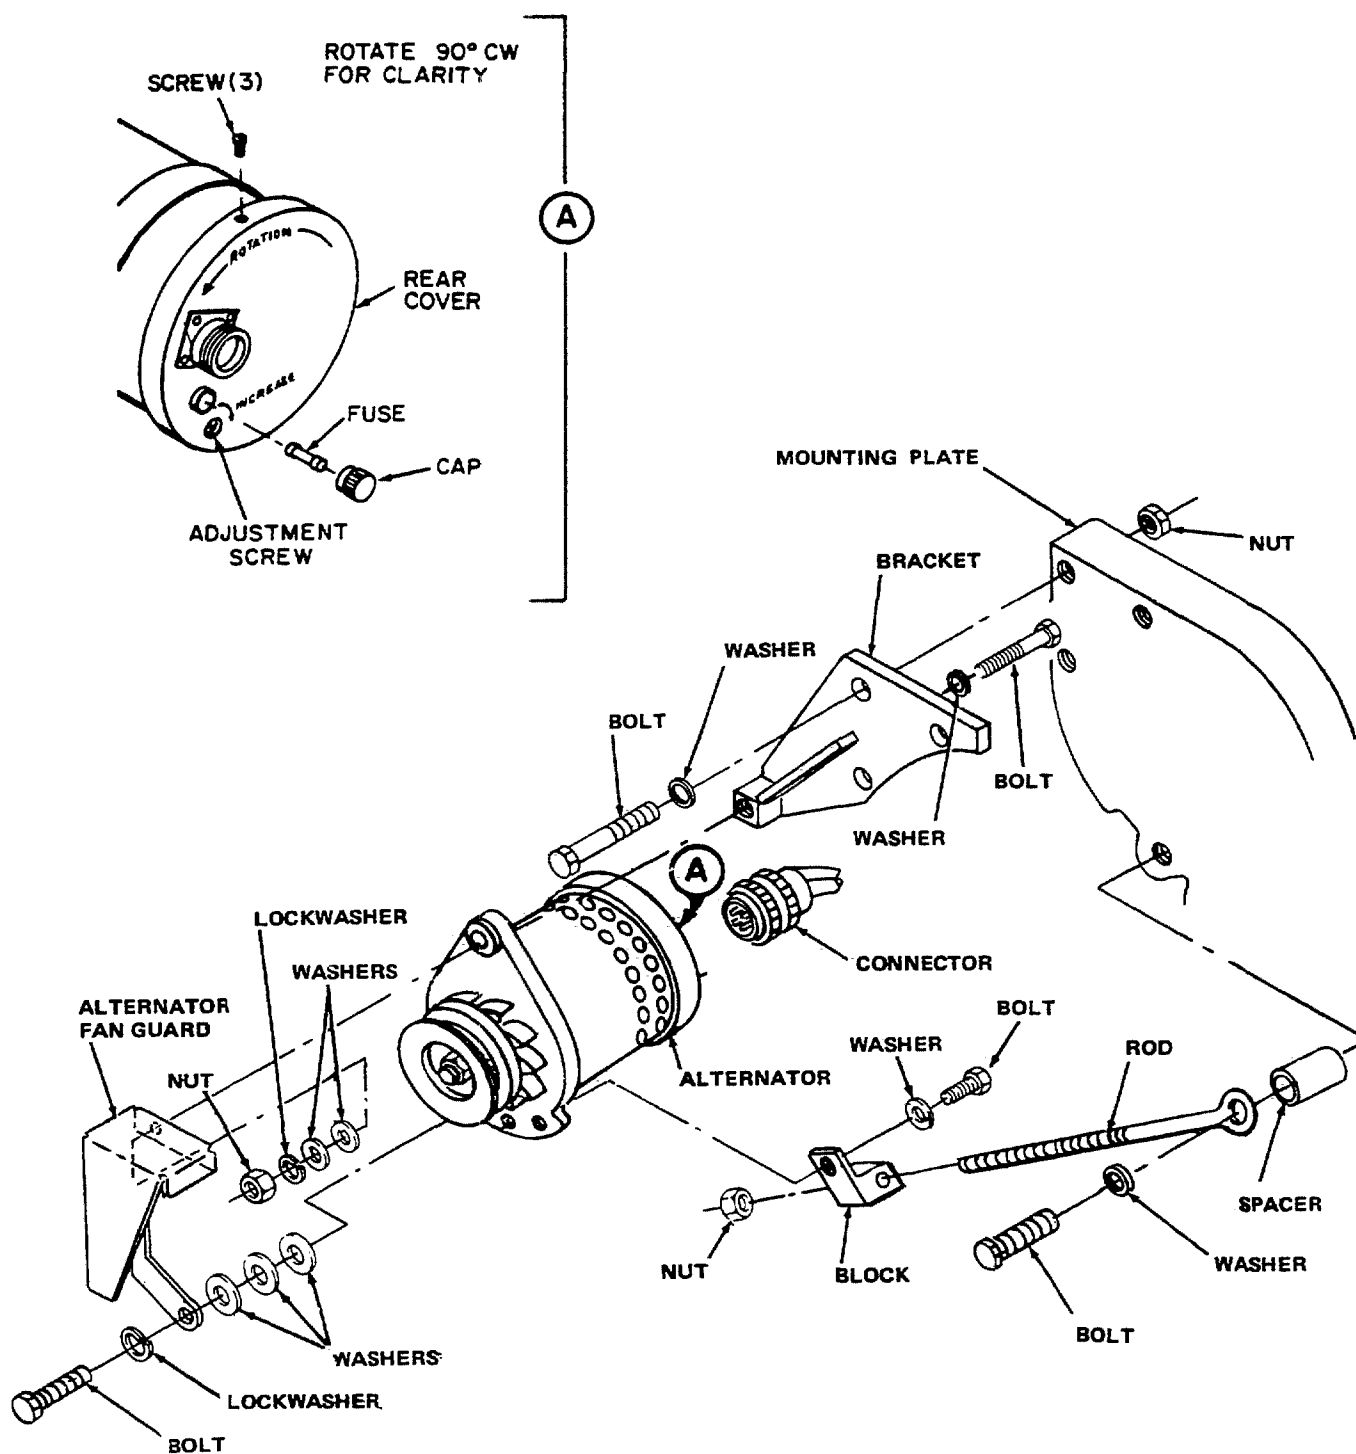

Figure 4-17. Battery Charging Alternator and Mounting Group, Removal and Installation
(a) Remove fuse from rear of alternator (refer to figure 4-17).
b. Removal. Remove alternator and mounting group as illustrated in figure 4-17, after removing alternator belt from alternator (refer to paragraph 4-30a).
(1) Clean alternator with a clean, dry cloth.
(3) Inspect for cracks, breaks, and defective threads. Replace defective parts.
d. Installation. Install alternator and mounting group as illustrated in figure 4-17, observing the following:
(1) Tighten plate mounting nuts to 17 ± 3 foot pounds torque (23 ± 4 Newton-meters).
(2) Install alternator belt and adjust belt, refer to paragraph 4-30.